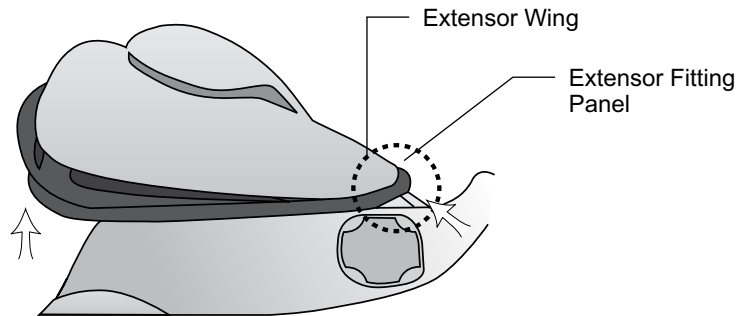

Figure 6-14: Placement of the Extensor Fitting Panel
2. With the Orthosis wing opened, align the narrow end of the extensor fitting panel with the narrow end of the extensor wing. See Figure 6-14. Make sure the lip of the fitting panel rests outside of the wing.